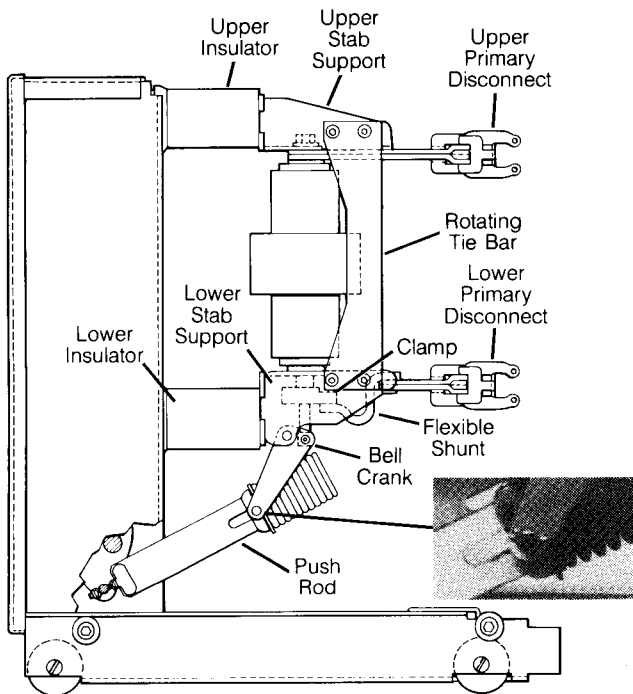

Figure 64. Removing X-Clips.
1. Remove the two "X-Clips" holding the bell crank to the push rod shown in **Figure 64**. These clips cannot be reused.